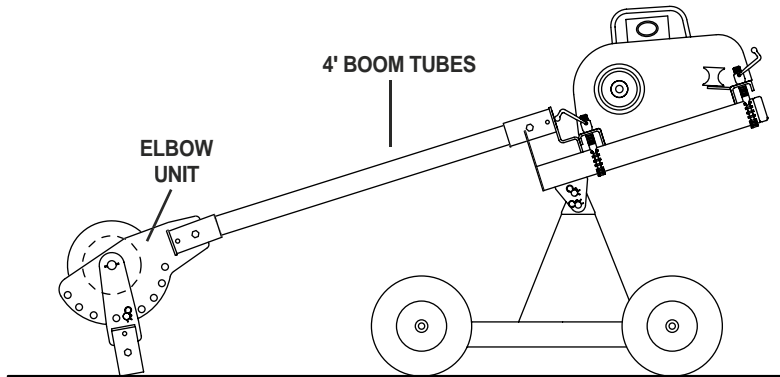

figure 20a
5. Remove the top puller mount pin (8091-5) and pivot the entire assembly so the elbow unit is lowered to the floor. (See *Figure 20a.*)